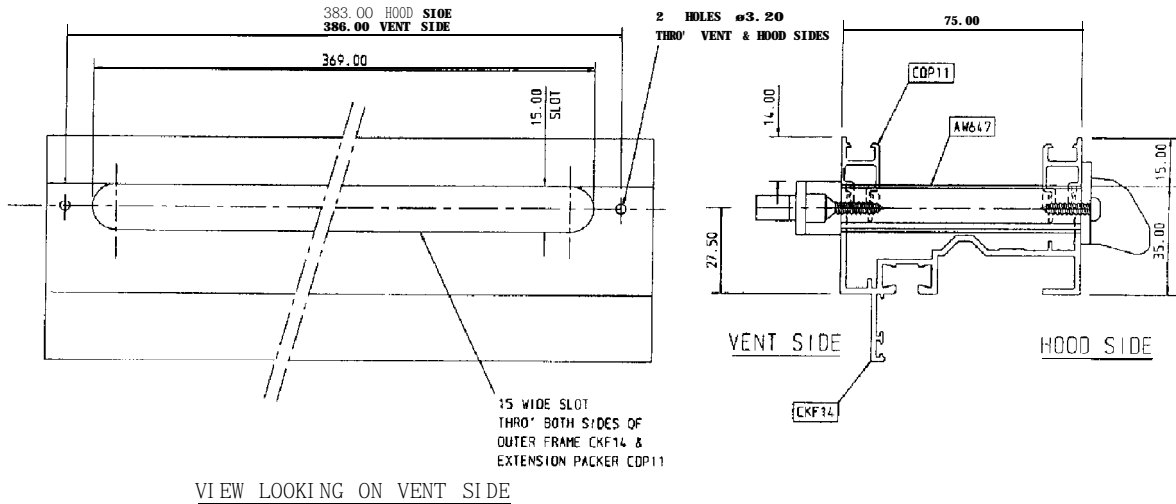

Fig. 27 FITTING TRICKLE VENT TO WINDOW FRAME
3.5 Trickle Vents (Figs. 27 & 28)